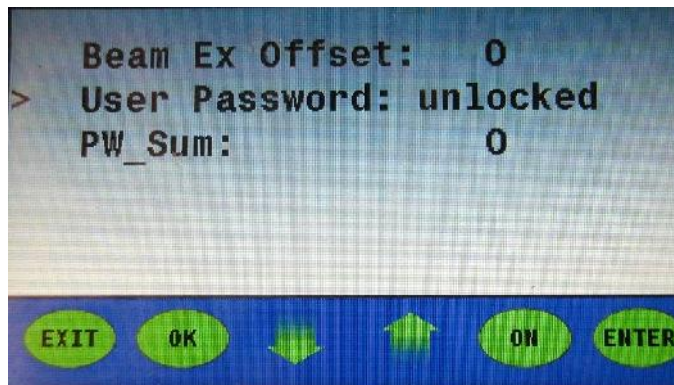

Figure 14
- Press “ENTER” to enter the password and return to “User Password: unlocked” on the menu list **(Figure14)**